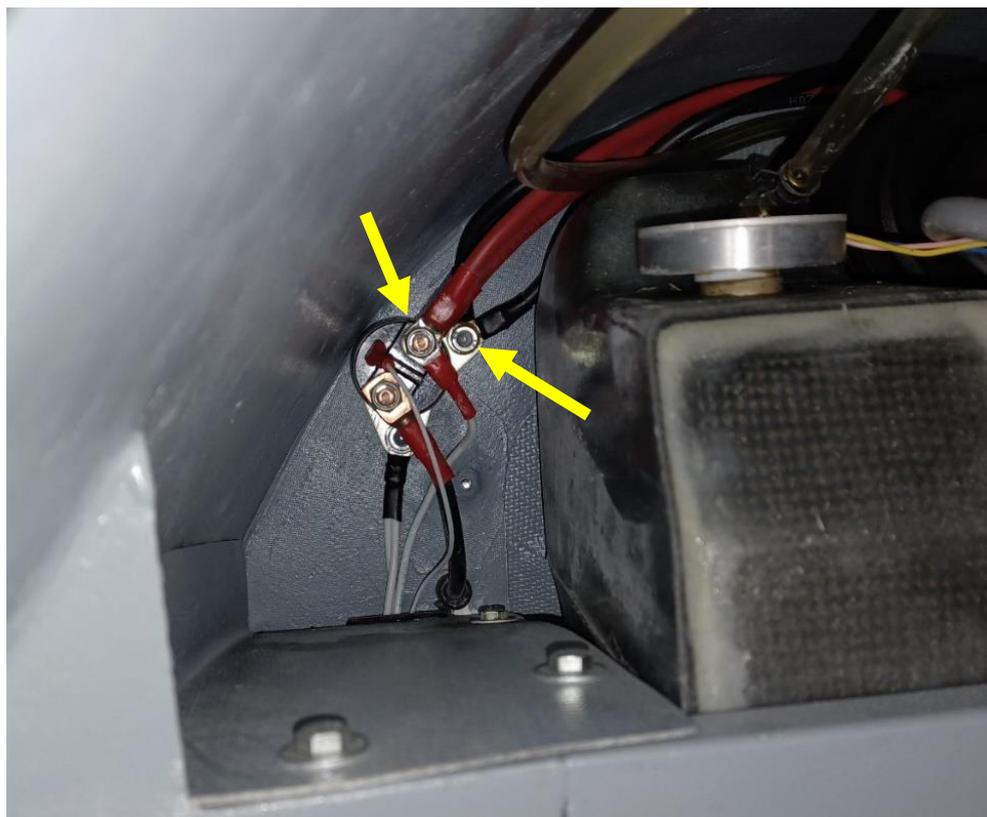

Fig. 2 – Starter relay, battery cable ends to be disconnected marked by arrows
The relay is located on the right side of the rear luggage compartment wall (see Fig. 2).
- 6) Replicate the routing of the original cables with the new cables, then attach on the relay end (see Fig. 2 for end result)